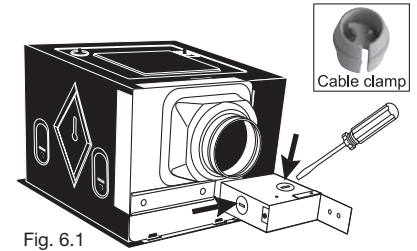

Fig. 6.1
- 1- Remove wiring compartment cover and pry out one of the knock-outs. The cable clamp (included) must be inserted through the knock-out hole. (Fig. 6.1)